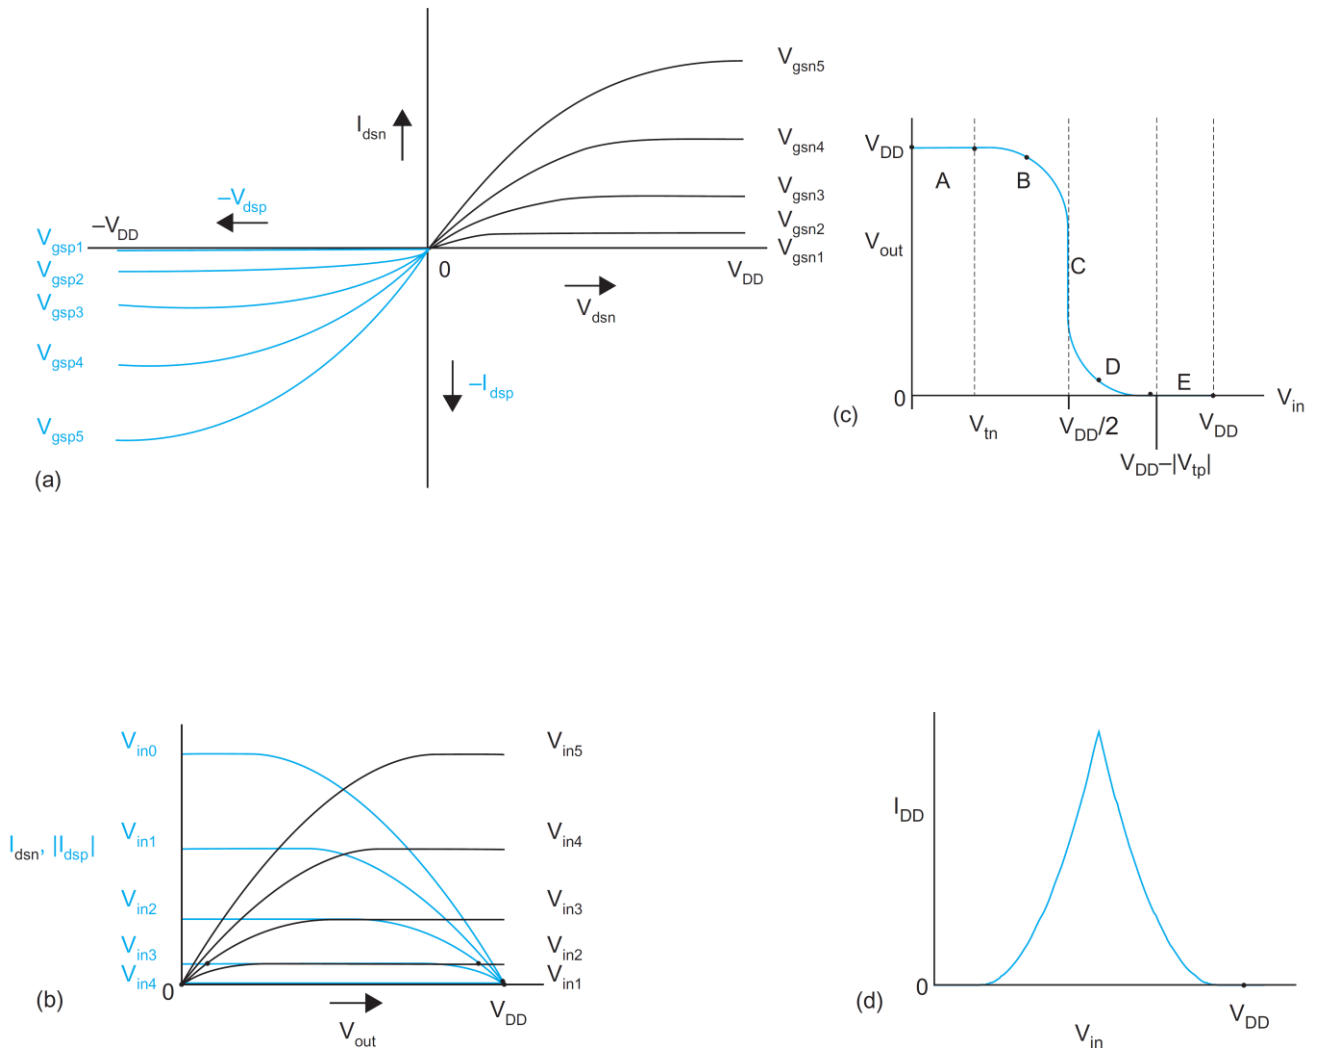

Figure 12: CMOS inverter DC characteristic
- ✓ Figure 12(a), shows  $I_{dsn}$  and  $I_{dsp}$  in terms of  $V_{dsn}$  and  $V_{dsp}$  for various values of  $V_{gsn}$  and  $V_{gsp}$ .
- ✓ Figure 12(b), shows the same plot of  $I_{dsn}$  and  $|I_{dsp}|$  in terms of  $V_{out}$  for various values of  $V_{in}$ .
- ✓ Operating points are plotted on  $V_{out}$  vs.  $V_{in}$  axes in Figure 12(c) to show the inverter DC transfer characteristics.
- ✓ The operation of the CMOS inverter can be divided into five regions as indicated on figure 12(c).